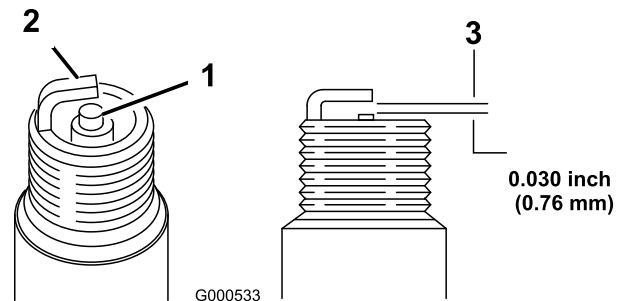

Figure 32
5. Set the gap on the plug to 0.76 mm (0.030 inch); refer to Figure 32.